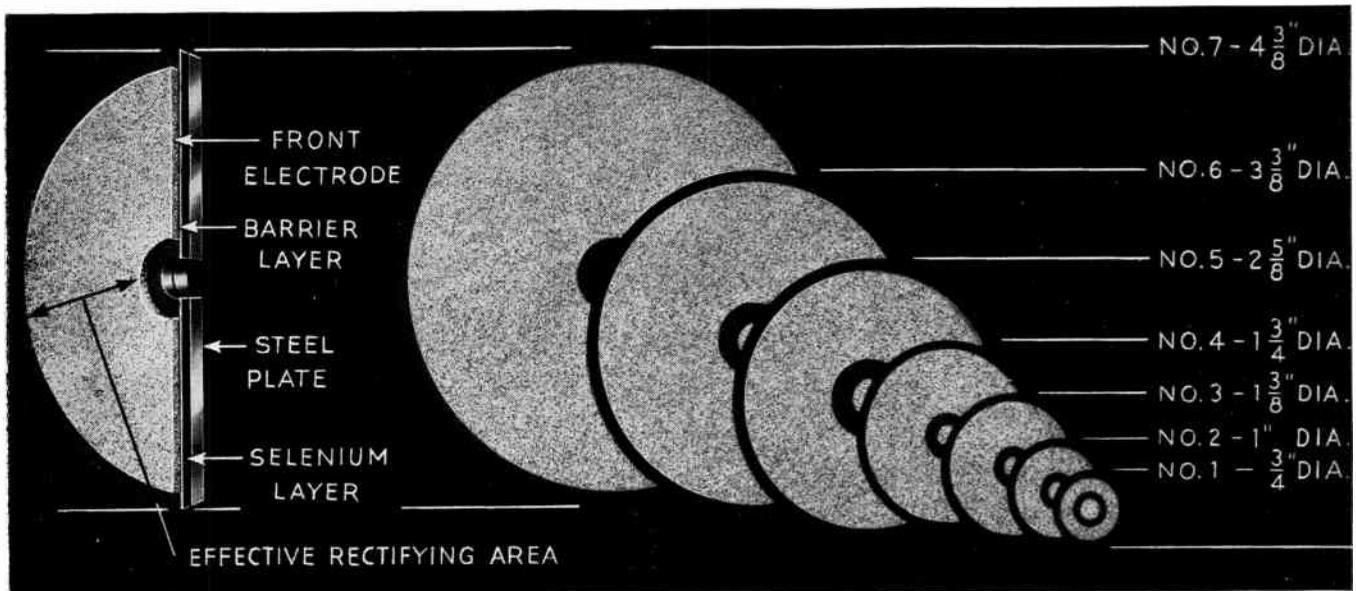

FIG. 1. LEFT, CROSS-SECTION OF SELENIUM RECTIFIER. RIGHT, THE SEVEN BASIC SIZES OF SELENIUM RECTIFIER PLATES
**Selenium Plates** ★ The rectification of alternating currents by means of the selenium rectifier takes place wholly within the constituent plate or plates, seven sizes of which are shown in Fig. 1. The rectifying medium of this electronic device consists of selenium. The principle of operation is similar to that of other dry plate rectifiers, i.e., low resistance in the forward direction and high resistance in the reverse direction. A metal plate serves as back electrode. Over it, a layer of selenium is deposited, thin enough to give minimum internal losses, but sufficiently thick to withstand high inverse voltage. A soft metal of low-melting temperature is then applied over the selenium layer to form a